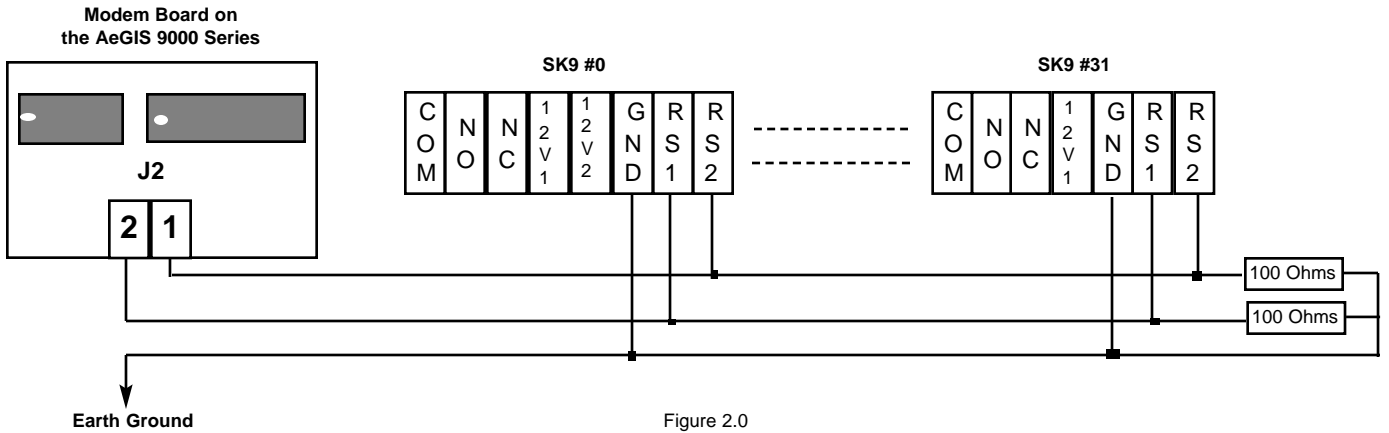

Figure 2.0
- 18 gauge, two conductors, stranded, shielded cable, from 0 Ft. up to 4000 Ft, see Fig. 2.0 for Communication Wiring Diagram.
- Two of 100 Ohms 1/4 Watt resistor for the last system termination (included), see Fig 2.0.
2. See Fig. 2.0 for communication wiring diagram, proper gauge of wires must be used.